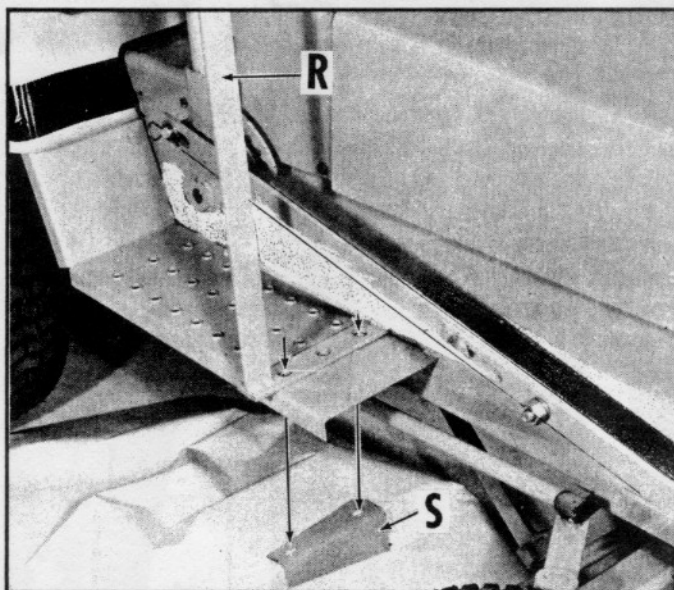

Fig. 6
Place crank rod support (R) over front three holes on foot rest. Align mounting bracket (S) under foot rest in the position as shown (Fig. 6). Insert 1-1/2 flat washer onto two 1-1/4 hex. head bolts; thread bolts down through mounting bracket (S). Secure with 7/8 flat washer, 3/8 med. lock washer and hex. nut.